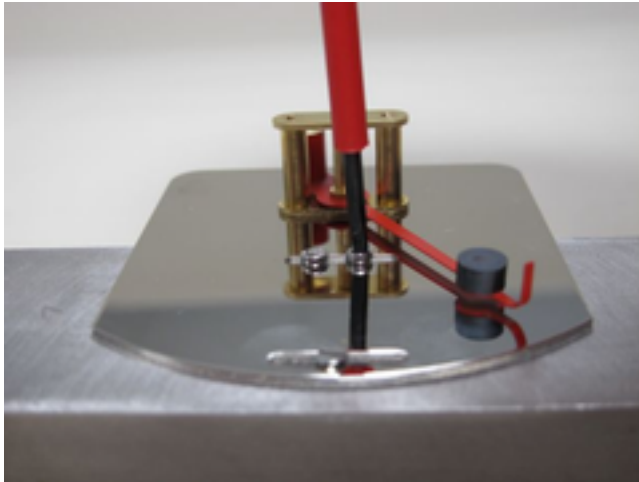

Fig. 73: Secure the base plate
- 15.** Set the display base plate on the device body and lightly tighten the mounting screws, so that the base plate can still be moved (*Fig. 73*). Make sure that the countersunk head screw is used for the long groove (pointer tip end) and the two (2) cylinder head screws are used for the base center.